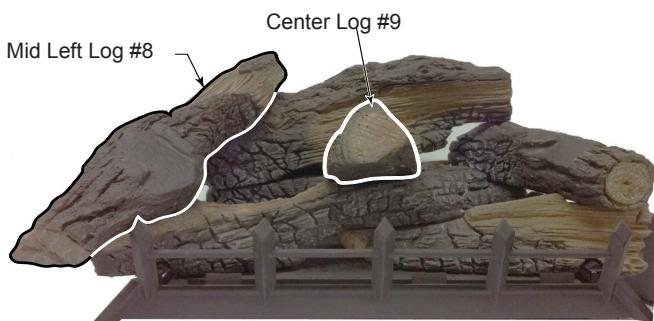

Figure 56
- Place center log (#9) onto front bottom left log (#5) by placing notch on bottom of log #9 onto locating block on log #5. The flat triangle-shaped end of log #9 should be towards front with pointed end of log resting on bottom rear log (#1). Figure 56
If the pilot flame does not touch the thermocouple, then the main burner cannot function reliably. Refer to Figure 56 for incorrect shape of pilot flame.